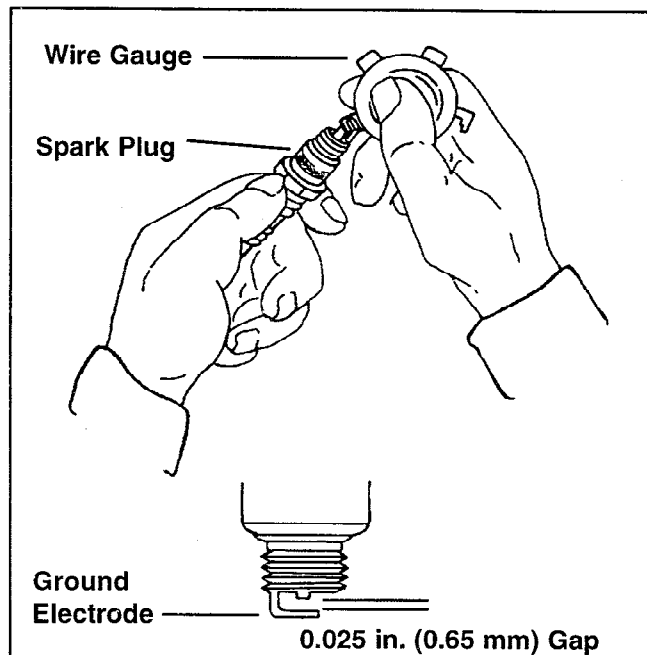

Figure 8. Servicing Spark Plug.
3. Check the gap using a wire feeler gauge. Adjust the gap to **0.025 in. (0.65 mm)** by carefully bending the ground electrode. See Figure 8.